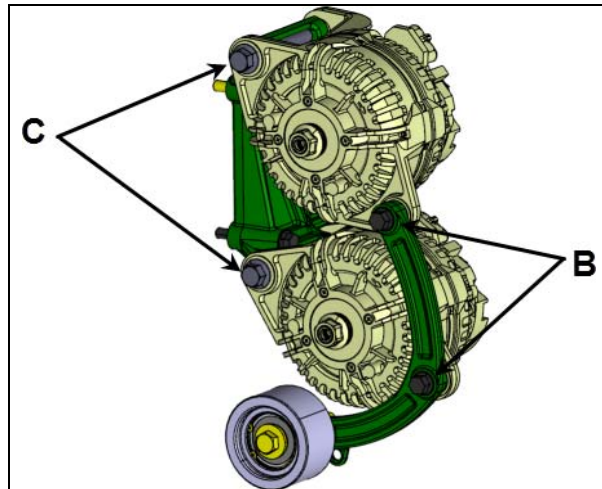

FIGURE 4
7. Install new alternators. Fix lower and upper alternators loosely to alternator supports using bolts **C**. Apply anti-seize compound inside the alternator mounting ears and inside the sleeves found on the support attached to the engine (see location **C** on figure 4). Also, mount arched support loosely onto alternators using bolts **B**. If applicable, install stone guard.
8. In order to assure proper installation, it is important to tighten the alternator mounting bolts in proper sequence. Use Loctite 243 blue on threads (figure 4).